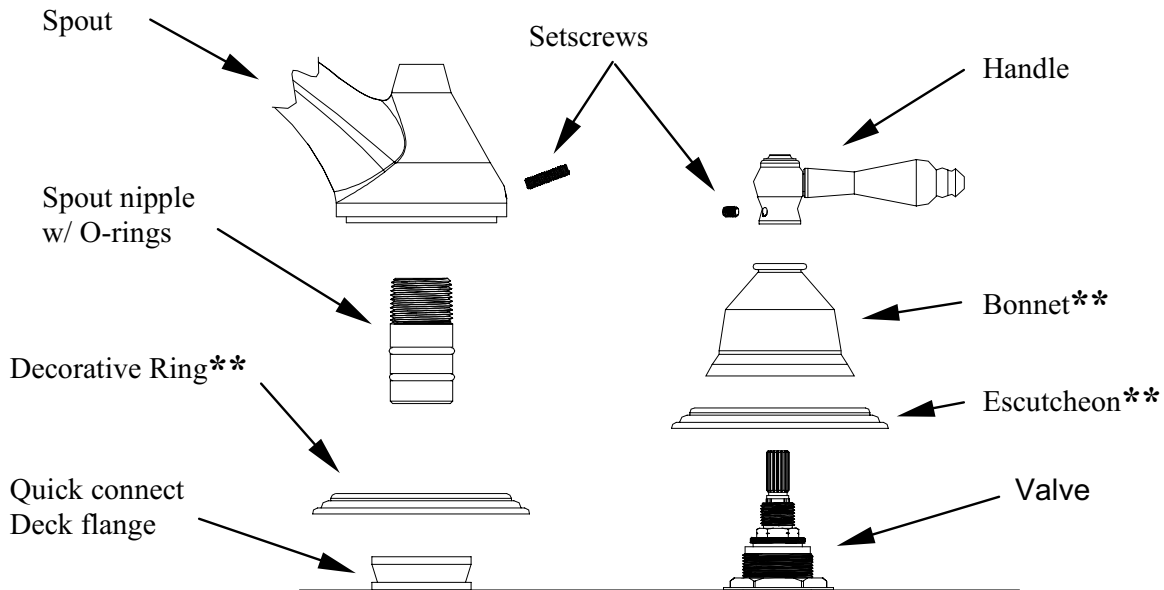

Fig. 3
4. Attach handle trim to valve. Any adjustments for rotational alignment must be made to the valve body - not to the cartridge. (Note: Allow minimum spacing between handles and escutcheon/bonnet to prevent damage to the surface finish.) Secure handles into place with setscrew. See Fig. 3
5. Apply Teflon tape to spout nipple and install into base of spout. Slide spout nipple into quick connect deck flange (re-grease if necessary). Make sure spout is flush with deck and secure into place with setscrew. See Fig. 3